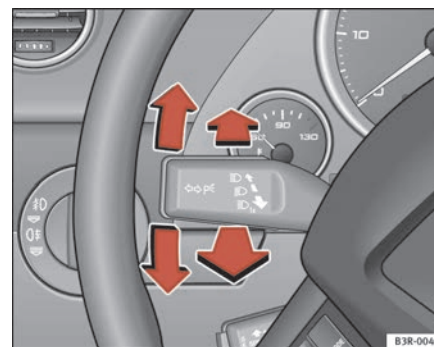

Fig. 91 Turn signal and main beam headlight lever
- Move the lever all the way up to indicate right or all the way down to indicate left ⇒ fig. 91.